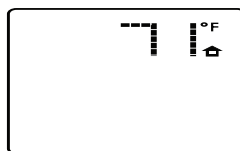

Figure 21 - Remote Display
- Replace battery housing cover. When batteries are installed, the "little house" icon with current room temperature will be displayed (see Figure 21). This icon will always show in the control window as long as the batteries have power.